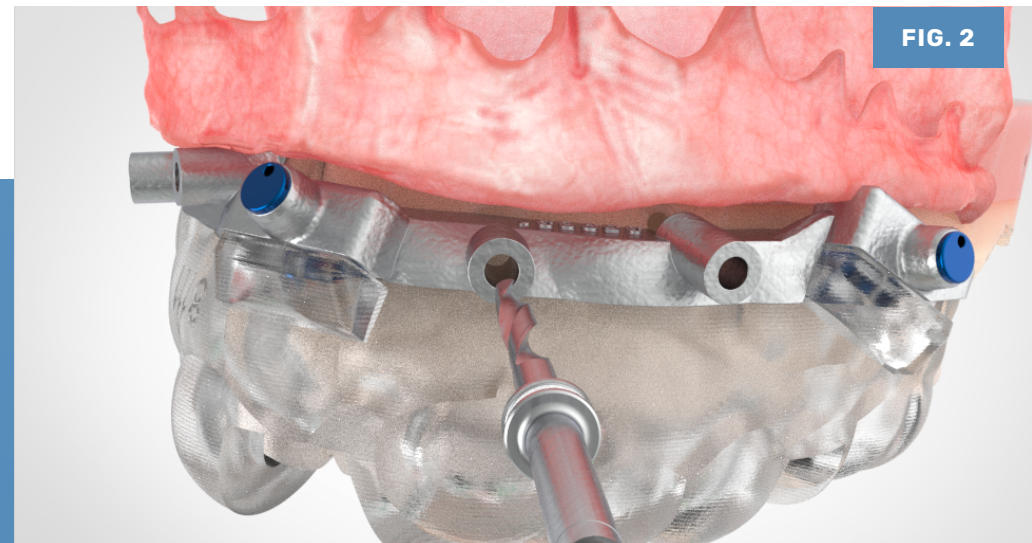

FIG. 2
3. Return the guide to the mouth and drill the facial holes for the pins, holding the Pin Guide firmly in place. **(FIG. 2)** Use the provided pins and drills as they are calibrated with the guide and plan.